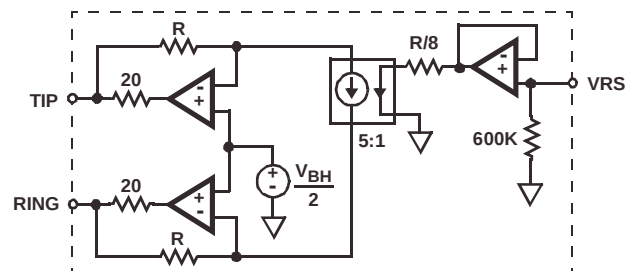

FIGURE 7. LINEAR RINGING MODEL
When the COF RAM button is selected from the MPI Operation General Interface screen, the COF RAM Operation screen will appear (Figure 7). From this screen, the user can load the coefficients for the current channel.
- From MPI Software screen, Select COF RAM. The Coefficient Ram Operation screen will appear (Figure 7).